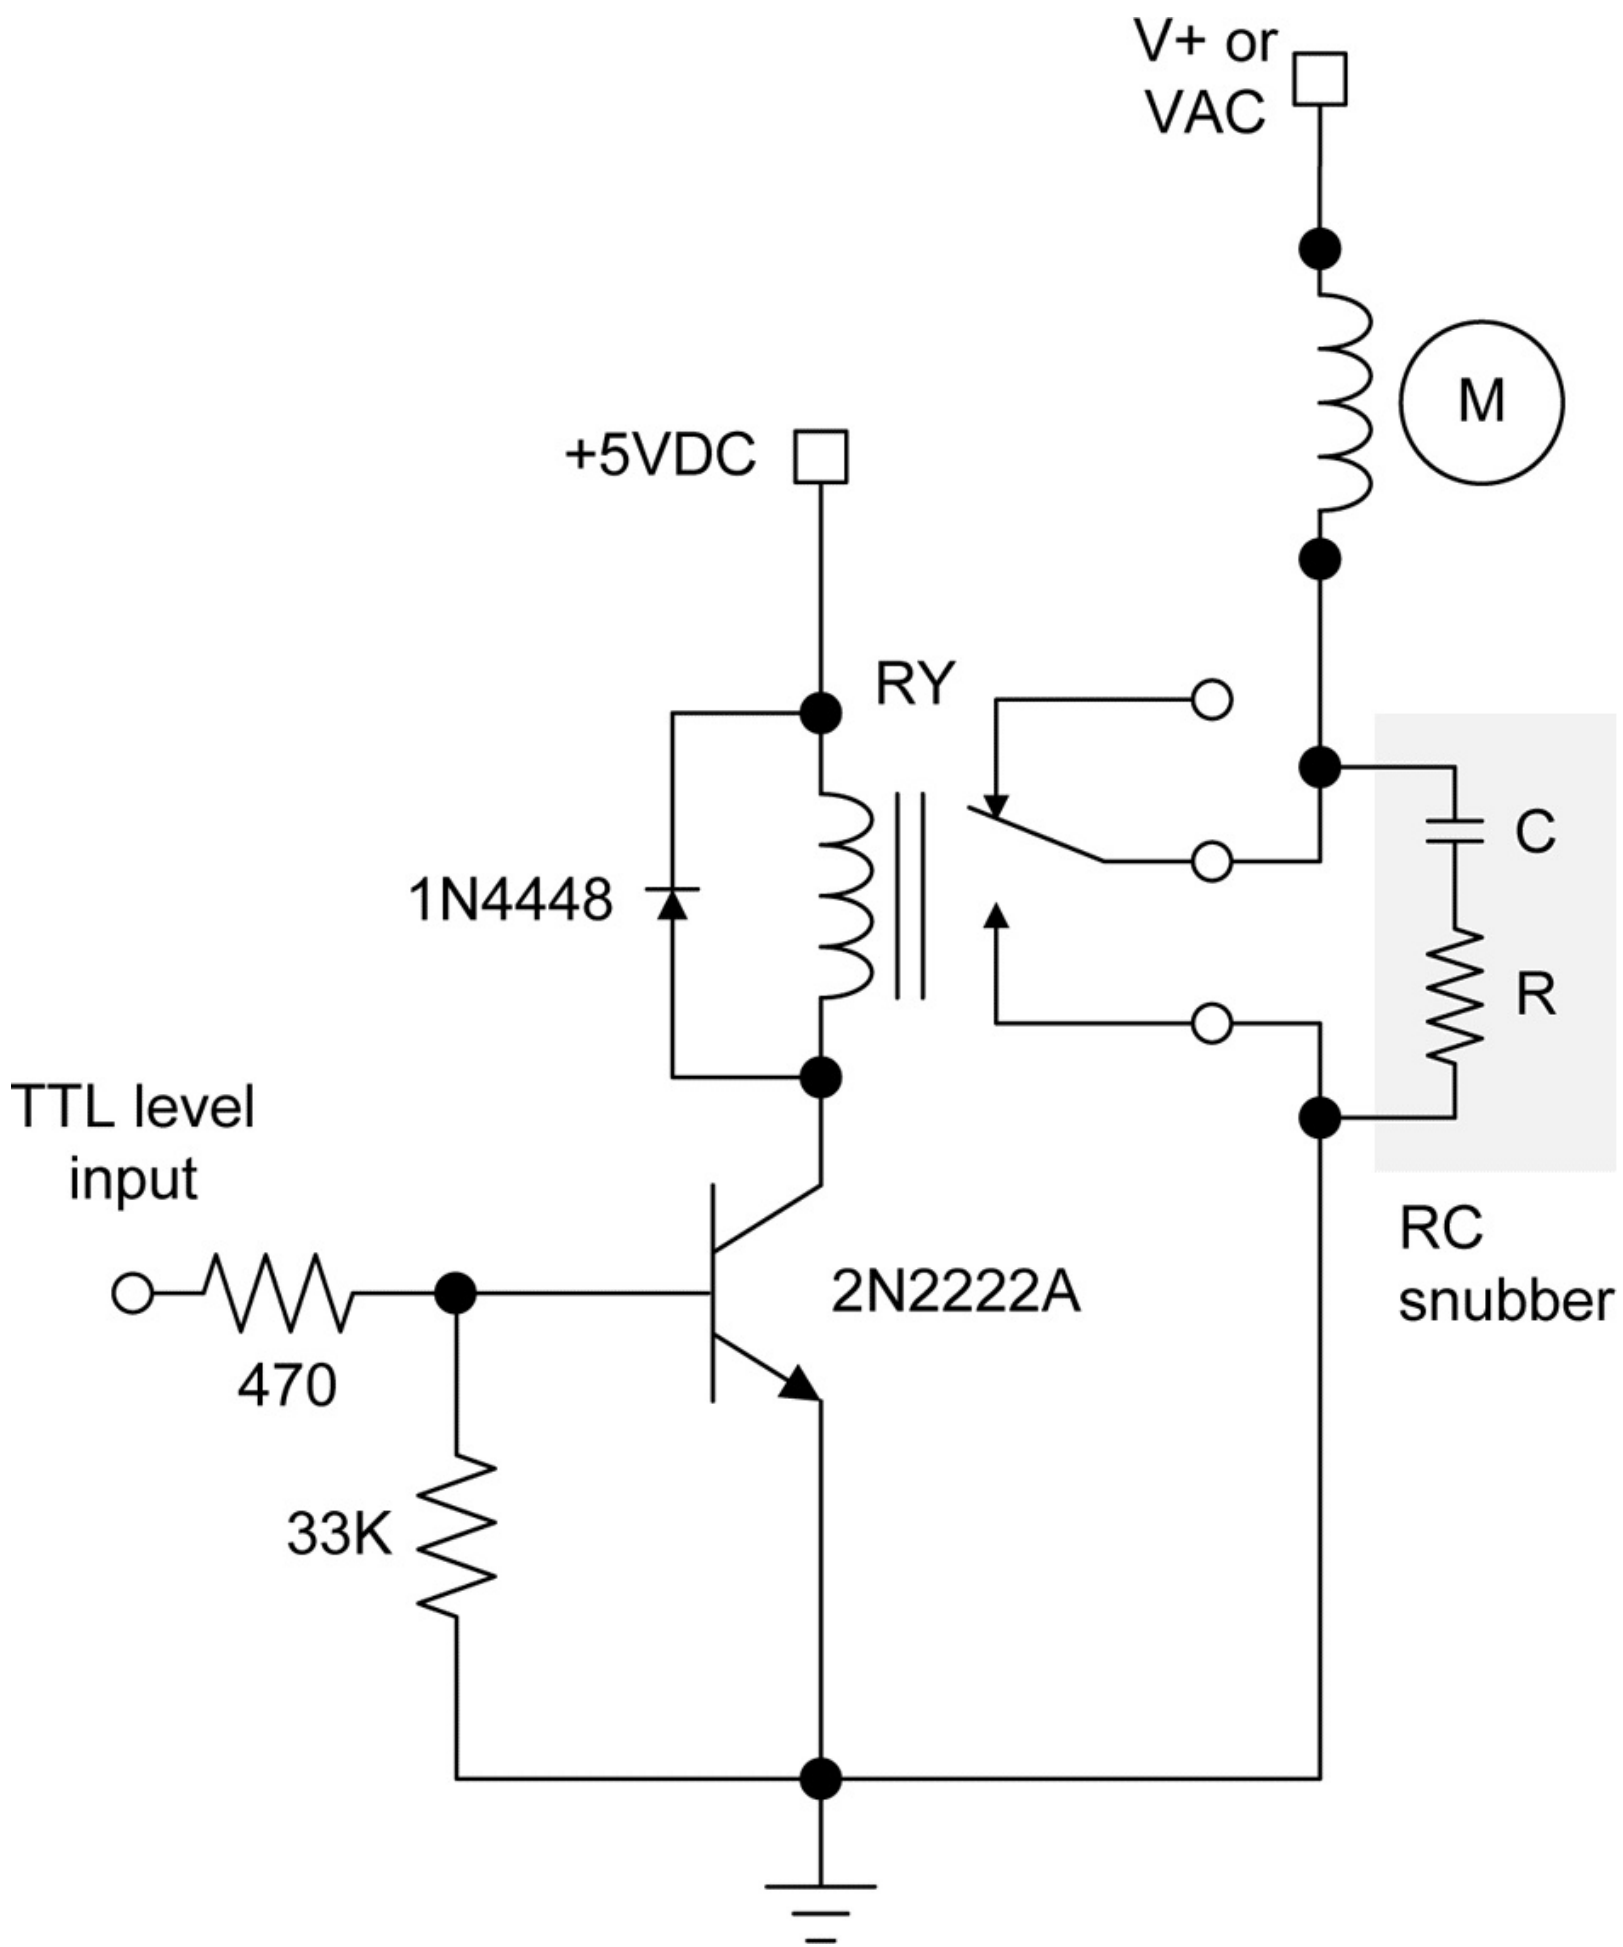

Figure 10-11. Relay contact snubber
You can reduce arcing using a resistor-capacitor (RC) *snubbing* circuit to help damp out the arc at the contacts. **Figure 10-11** shows one way to do this. This technique works for both DC and AC circuits, and it can help extend the life of a relay's contacts considerably.